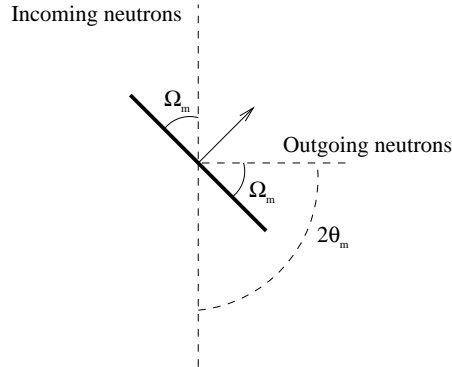

Figure 3: Illustration of the monochromator orientation
1. Keeping your current components, insert a Monochromator_flat component (use mcdoc or the component manual to get the needed parameters) and a new set of PSD and L_monitor after the monochromator. You should now add two new input parameters of your instrument, e.g. OMM (Omega Monochromator) and TTM (Two Theta Monochromator) for rotation of the monochromator and the remaining part of the instrument so that the orientation of monochromator is as portrayed in Figure 3. These two instrument input parameters should be added to the DEFINE line of the instrument (start of file). Remember to add an Arm() at the rotation point.